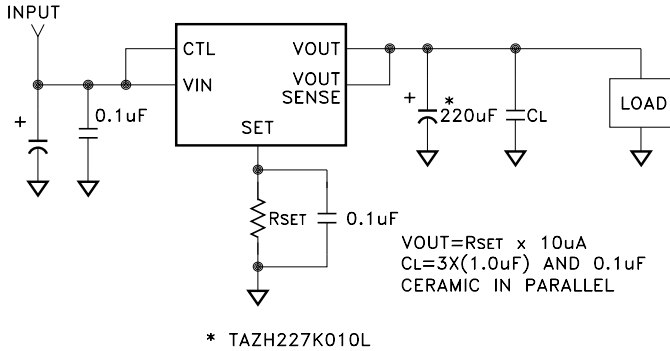

FIGURE 1
- Output is decoupled to ground using a 220μF tantalum low ESR capacitor in parallel with 3 pieces of 1.0μF and one 0.1μF ceramic capacitor unless otherwise specified. (See Figure 1)